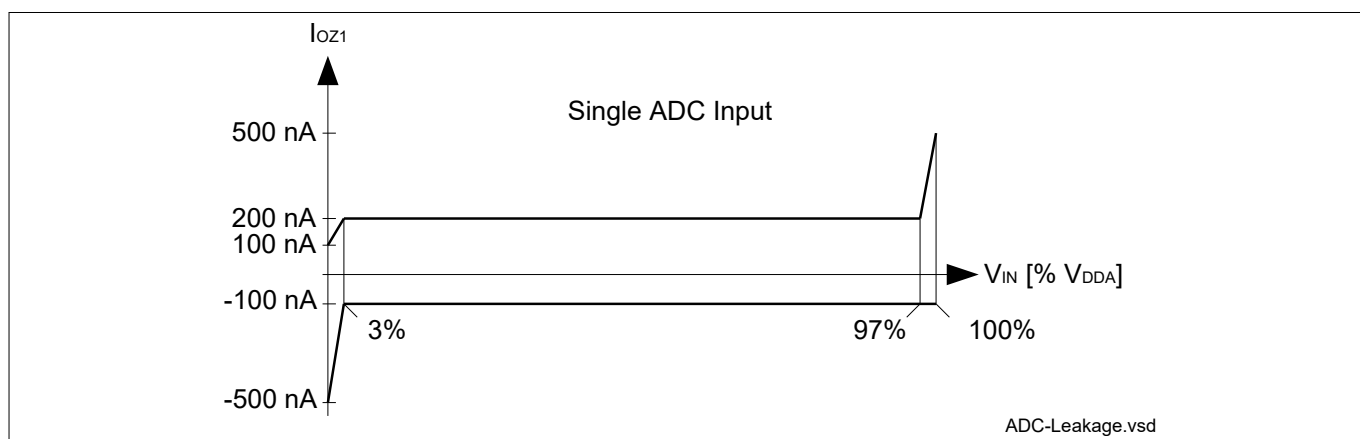

Figure 16 VADC Analog Input Leakage Current
- 4) The leakage current definition is a continuous function, as shown in figure ADCx Analog Inputs Leakage. The numerical values defined determine the characteristic points of the given continuous linear approximation - they do not define step function (see Figure 16).